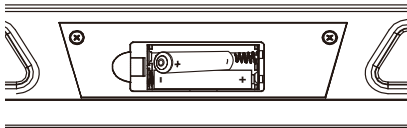

Fig.2
## Battery installation (Fig. 2)
1. Open the battery cover, located in the middle of the back of the level (Fig.2).